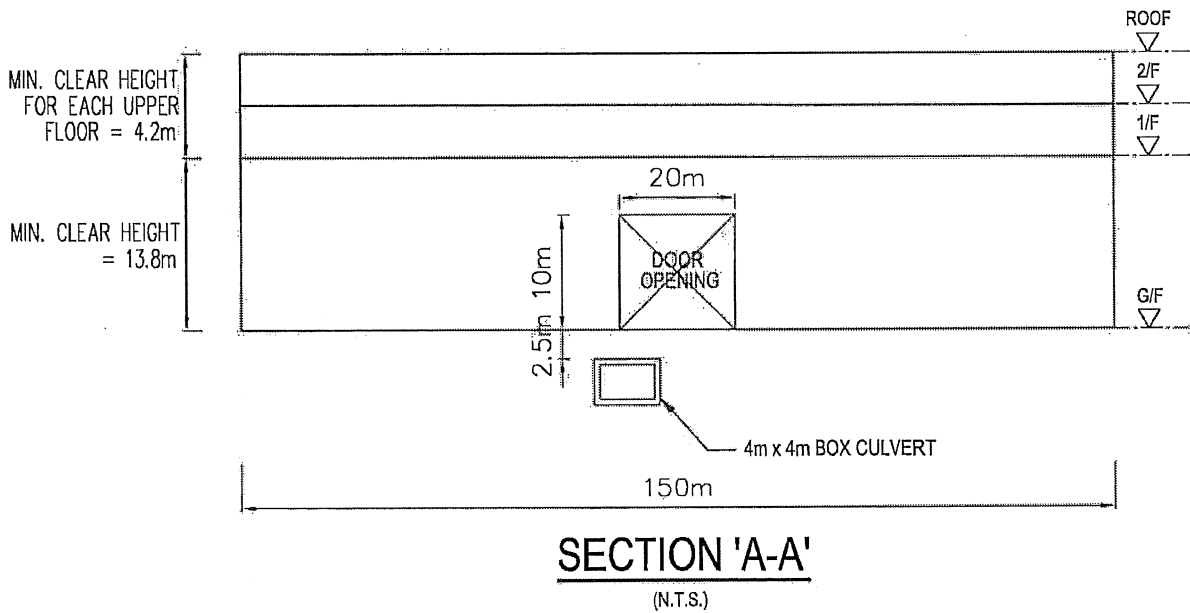

Figure Q4
1. A new 3-storey industrial building is proposed as shown in figure Q4.